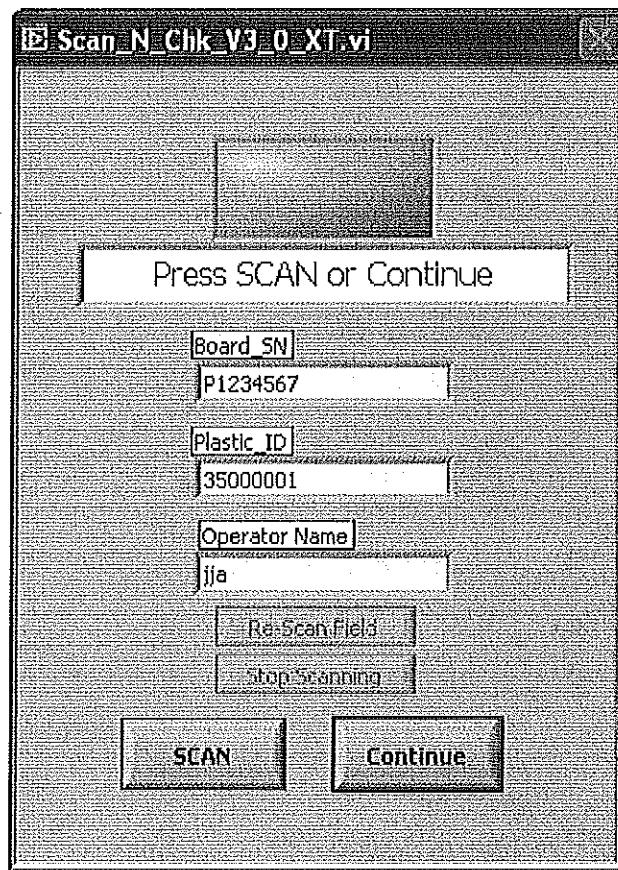

Figure 7 – Scan Window.
3. Press "START TEST" (The Scan N Chk dialog box will appear - Figure 7).